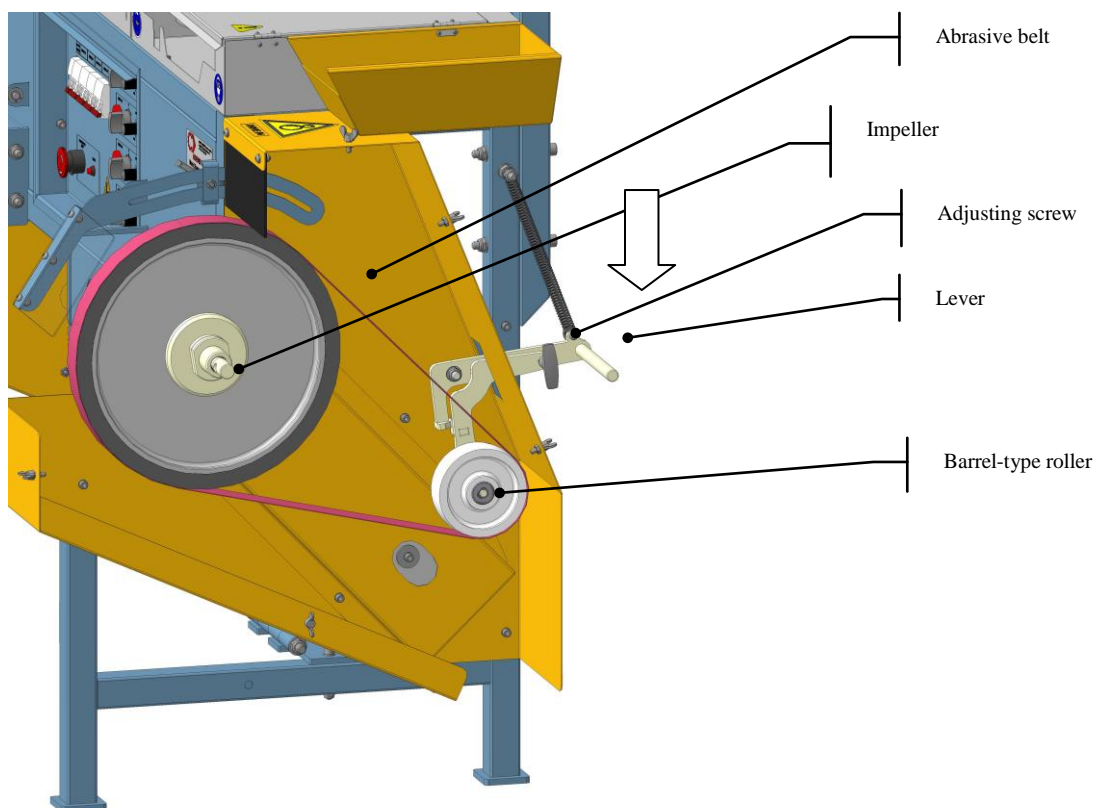

Figure 9. Installation and adjustment of the abrasive belt
- holding the lever with one hand put the abrasive belt onto the wheels as shown in Figure 9 (the abrasive belt should be located in the center of all interconnected wheels);